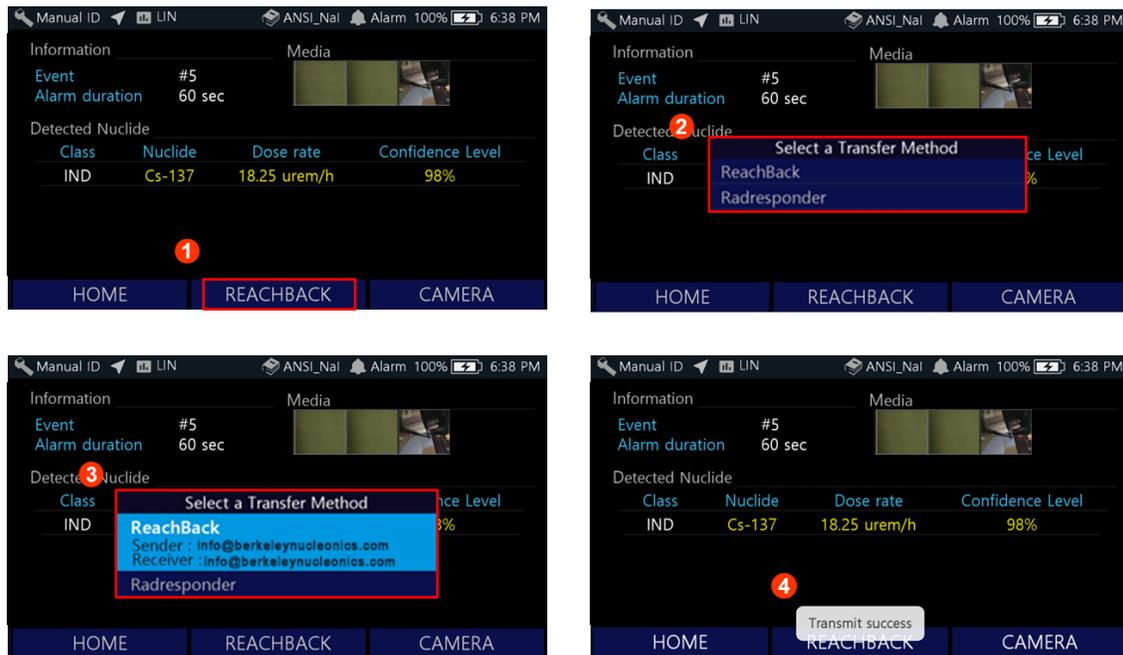

Figure 5.7.1. Transmit Event Report to Reach-back
3. ReachBack is highlighted and sender/receiver account are shown (Figure 5.7.1)